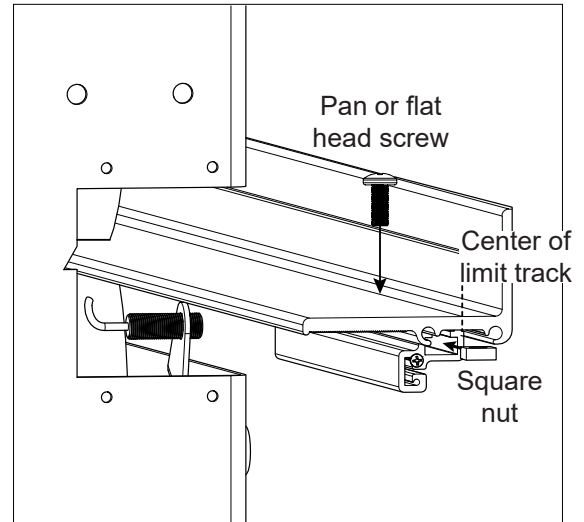

Figure 10. Install Limit Flag
7. Install a screw into each hole, thread a square nut onto each screw, and slide the limit flag onto the square nut (Figure 10).